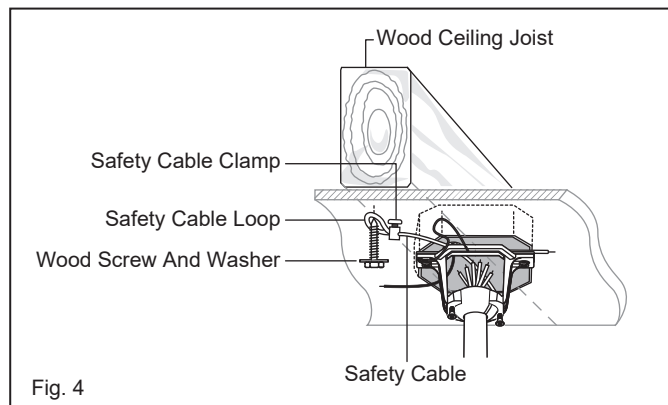

Fig. 4
- 8 Lift ball/downrod/fan into hanger bracket opening. **NOTE:** The tab opposite hanger bracket opening should fit in slot on ball. (Fig. 4)
- 2 Connect the black lead wires from the switch in the cradle A to the black wires in the switch box. Hot input wire to one of the cradle switch leads. Power lead to the fan is connected to the remaining switch lead. (Fig. 4)